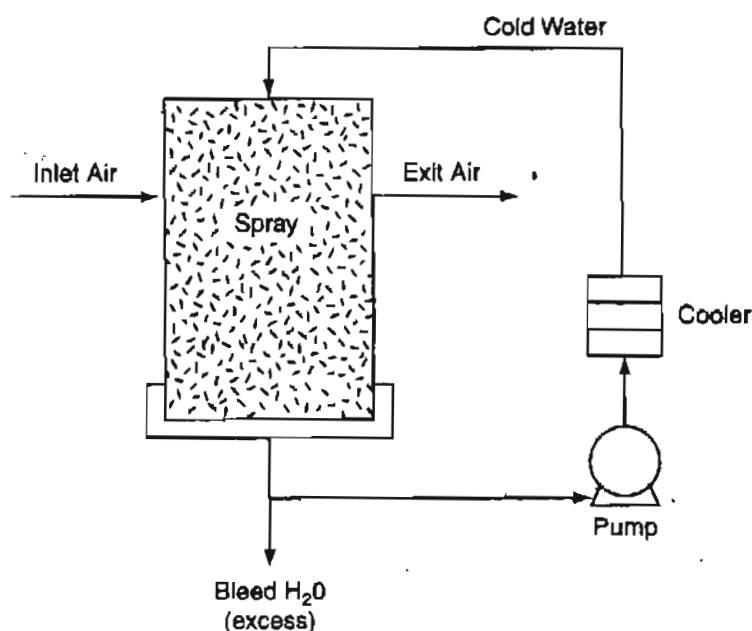

Figure SAT29.3P1
1. A process that takes moisture out of the air by passing the air through water sprays sounds peculiar but is perfectly practical as long as the water temperature is below the dew point of the air. Equipment such as shown in Figure SAT29.3P1 would do the trick. If the entering air has a dew point of 70°F and is at 40% RH, how much heat has to be removed by the cooler, and how much water vapor is removed, if the exit air is at 56°F with a dew point of 54°F ?